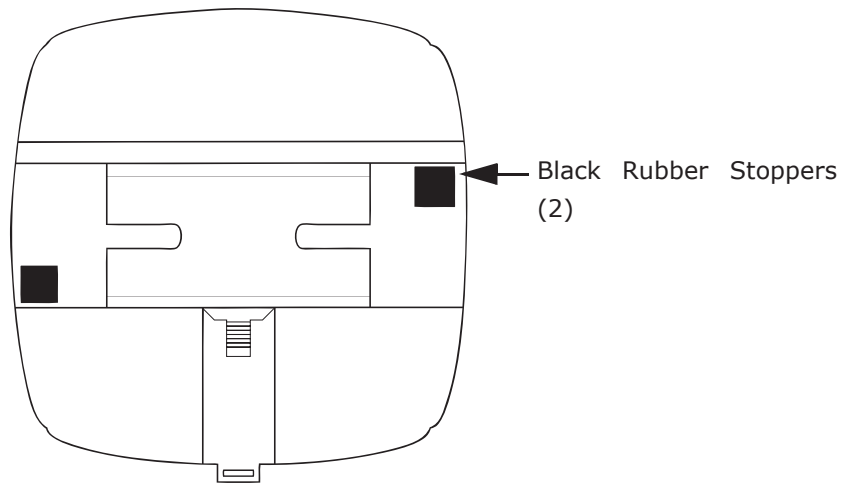

Figure 3.8: DIN Rail Detail
- If mounting with the DIN Rail provided, use the black rubber stoppers, also provided (see Figure 3.8).